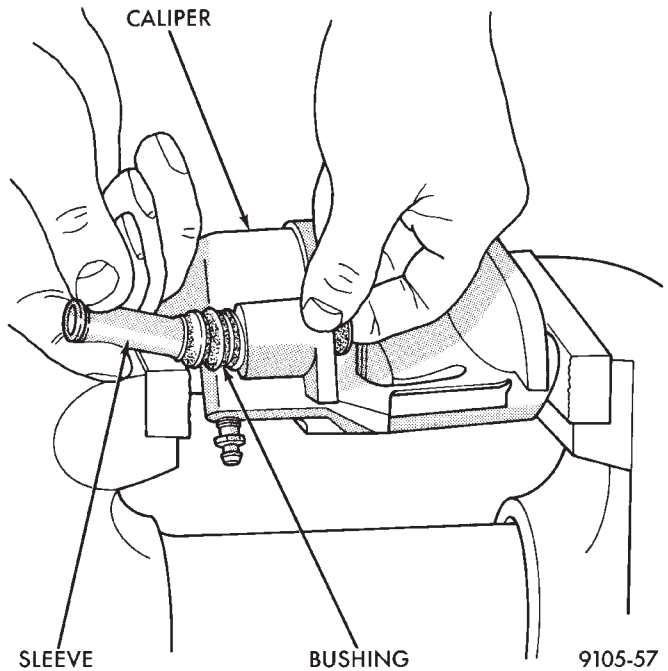

Fig. 3 Removing Inner Sleeve From Bushing
(1) Using your fingers push on one end the inner sleeve until it pops out of the bushing. Then grasp the inner sleeve with your fingers and pull the inner sleeve out from the inside of the bushing (Fig. 3).